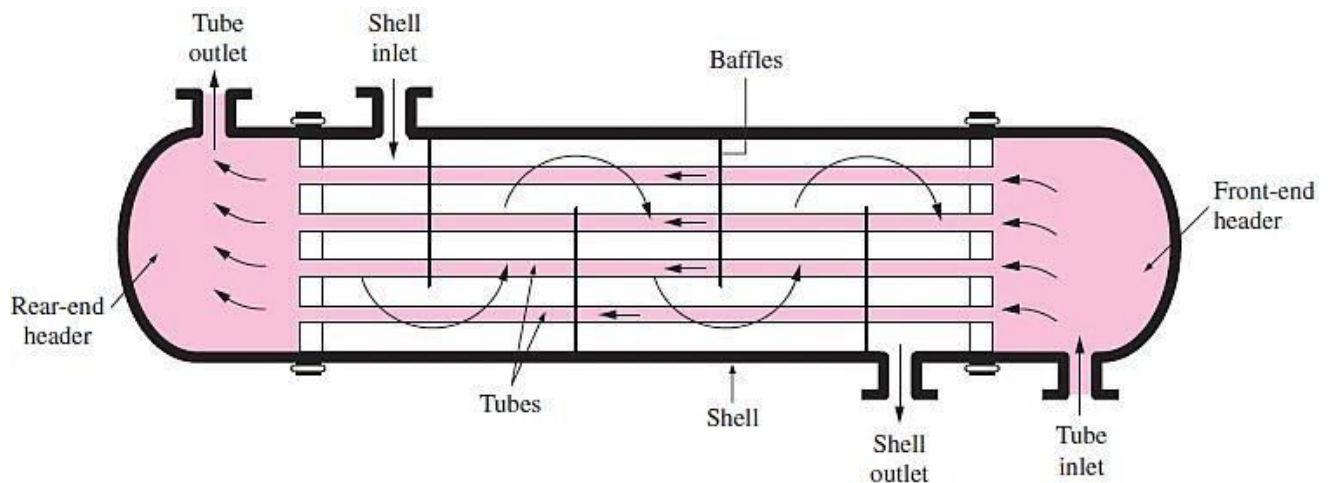

Fig.9.4 Shell & tube heat exchanger with one shell pass and one tube pass (1-1 exchanger)
- **Single-pass:** Two fluids may flow through the exchanger only once as shown in Fig.9.4.